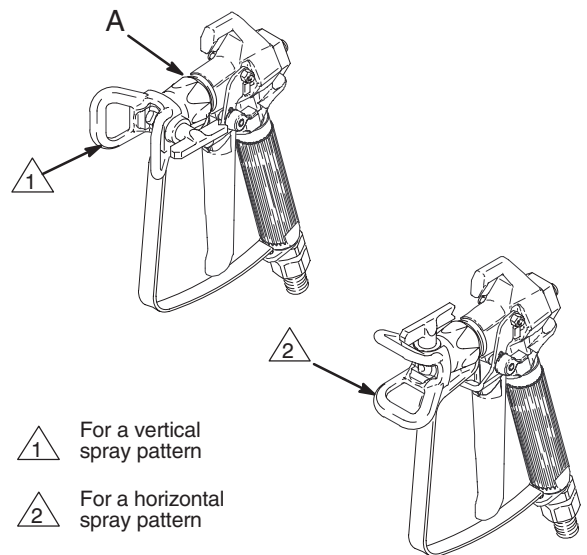

Fig. 10
The tip guard alerts you to the risk and helps prevent placing any part of the body close to the spray tip. The tip guard also adjusts the vertical or horizontal spray pattern. See Fig. 10. The tip guard holds a reversing spray tip. The tip is in the spraying position when the tip handle points forward. See Fig. 8.
- c. Adjust the direction of the spray pattern. See Fig. 10. Engage the gun safety latch. Loosen the retaining nut (A). Position the tip guard for a horizontal or vertical pattern. Hold the tip guard in place and tighten the retaining nut.